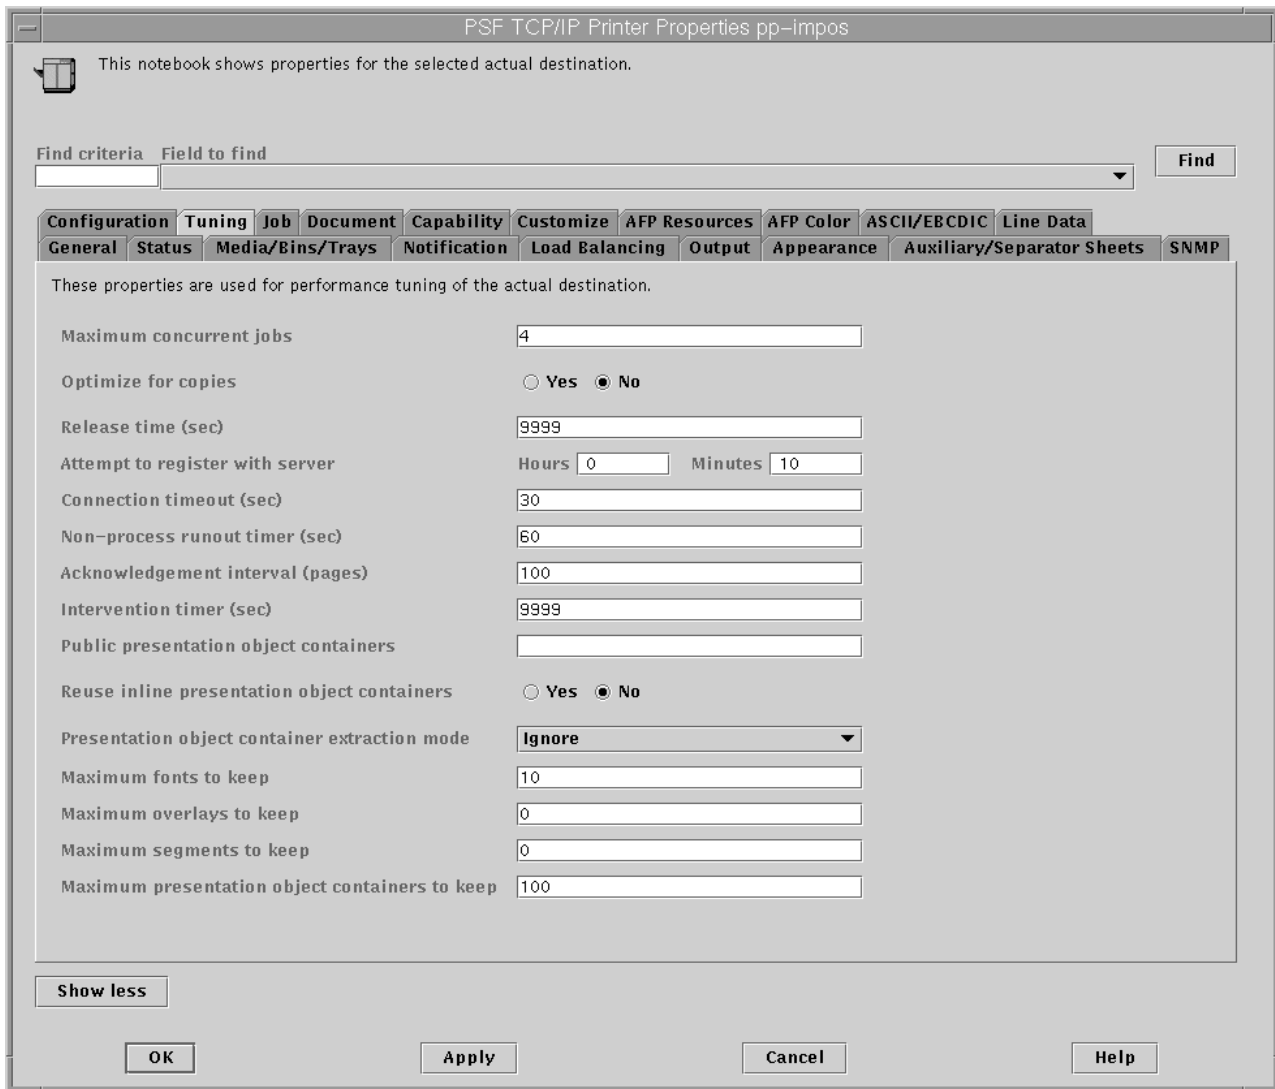

Figure 27. PSF DSS Actual Destination Properties notebook
4. Specify high values for both the **Release time (sec)** and the **Maximum presentation object containers to keep** fields as shown in Figure 27 on page 122.
5. Ensure that **Optimize for copies** is set to no, as shown in Figure 27 on page 122.